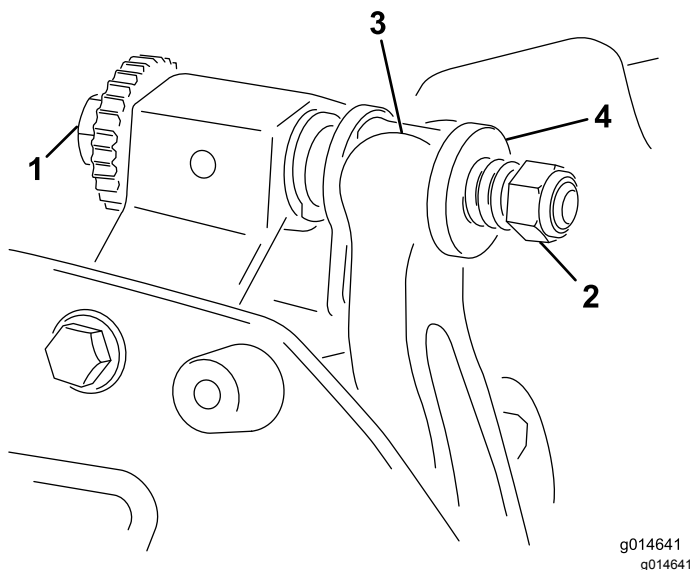

Figure 13
1. Turn the bedbar adjusting screw, counterclockwise, to back the bedknife away from the reel (Figure 13).
2. Back out the spring-tension nut until the washer is no longer tensioned against the bedbar (Figure 13).
1. Install the bedbar, positioning the mounting ears between the washers and the bedbar-adjusting screw (Figure 13).